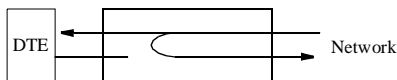
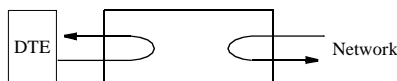

Figure 4-7 Unidirectional Data Loop and V.54 Loop
Figure 4-8 Bidirectional Data Loop and V.54 Loop
Data Loop: The data loop takes place at the data port (DTE) interface and is activated when the 4001 receives alternating loop codes in the network receive data stream. Technically, it is activated by the receipt of at least four consecutive loop commands and remains looped as long as each third pattern byte is the loop command. It returns to normal operation after receiving at least four non-loop command pattern bytes. Data loops may be either unidirectional as shown in Figure 4-7 or bidirectional as shown in Figure 4-8. Unidirectional data loops retransmit the DSU received data on the DSU transmit data including the loop code. Receive data is unaffected (but includes the modified loop codes) and circuits DSR and DCD are optionally forced OFF. In the bidirectional line loop, network receive data is looped back to the network as network transmit data. DTE transmit data is looped back through the data port as receive data to the DTE.
V.54 Loop: V.54 loops take place at the DTE data port interface and are activated upon receipt of in-band V.54 loop codes in the network receive data stream. V.54 loops unidirectional (Figure 4-7) and bidirectional (Figure 4-8) Unidirectional loops return the DSU receive data to the DSU transmit data, and then to the DDS transmit data. Receive data is unaffected and DSR and DCD are optionally forced OFF. In the bidirectional line loop, network receive data is